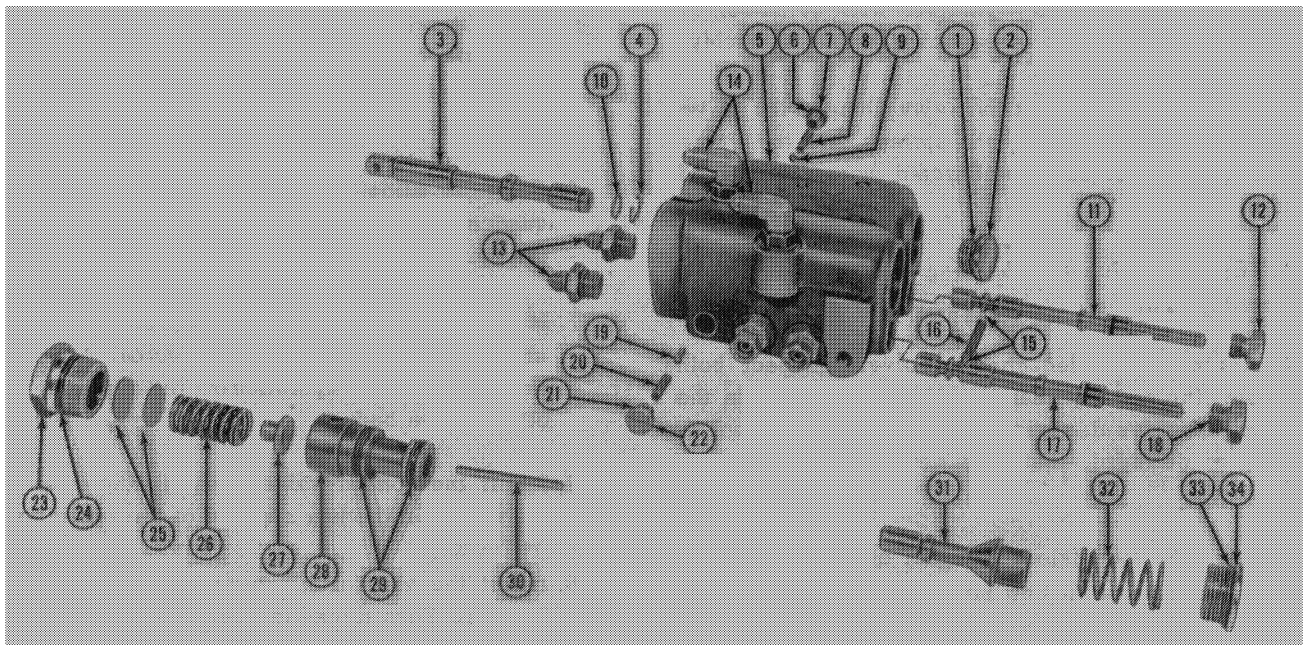

Figure 14
Observe the pressure reading on the gauge. The gauge reading should be  $350 \pm 50$  psi ( $24.5 \pm 3.5$  kg/cm2). The regulating valve can be adjusted by adding or removing shims, Figure 14, until the desired pressure reading is obtained. Low regulating valve pressure will result in the control cylinders failing to work. High regulating valve pressure will result in failure of the cylinder piston or gland packing and oil leakage.
Refer to Figure 14 for parts identification.
1. Remove the shut-off valve spool from the sequencing valve body by removing the small slotted plug, Figure 14; then carefully slide the spool through the plug end of the valve body.
**NOTE:** Because of the spool stop, Figure 14, removal of the shut-off valve spool through the bottom of the valve body is not possible.
7. Partially remove either the lift or bucket sequencing valve spool, Figure 14. This will permit the removal of the inner detent plungers and spring.
## KEY FOR FIGURE 14